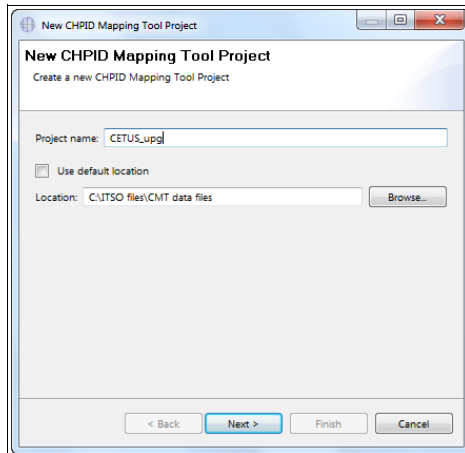

Figure 4-6 Creating a CHPID Mapping Tool Project
2. CMT asks for a project name and location of the CMT work files. We used MUSCA\_upg as the project name (see Figure 4-6).